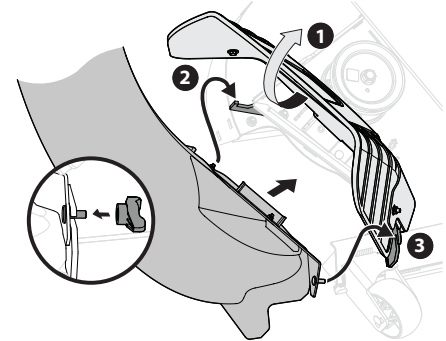

Figure 19
1. With the tractor's outer and inner discharge chutes raised up and held open (1), install the boot assembly (819-011300) by placing the hole on the boot assembly bracket on the tab located on the top, right rear of the deck (2), as shown in Figure 19.
2. Pivot the boot assembly forward, sliding under the discharge chutes raised in Step 2, until the pin on the boot assembly bracket aligns with the slot on the deck. See (3) in Figure 19.
3. Secure the boot assembly to the cutting deck using wing knob (720-04122) from hardware pack 689-02619. See inset of Figure 19.